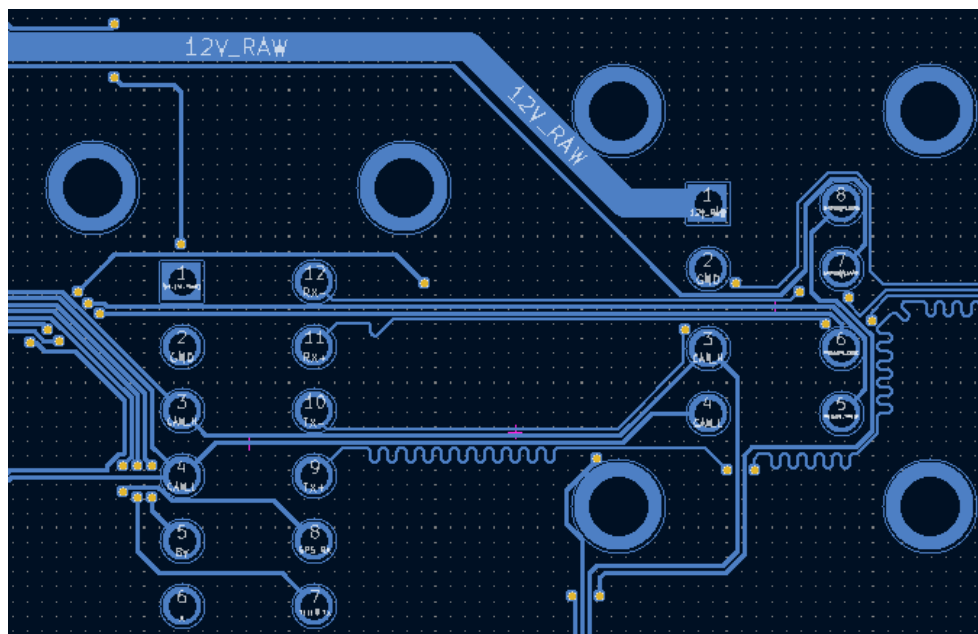

Figure 2: Effective trace routing on DEN V1 (NU23)
- **Set critical traces** early, such as power lines, shutdown circuit and sensitive analogue signals. It may be beneficial to consider these before laying out all components. However, leave the rest of trace routing until after part placement to avoid rerouting. Effective trace routing is illustrated by Figure 2.